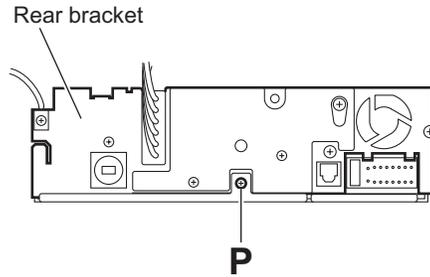

Fig.16
3.1.11 Removing the main board (See Figs.16 and 17)
- Remove the panel assembly, side heat sink, top chassis assembly, loading unit assembly and arm bracket assemblies (L)/(R).
- From the back side of the main body, remove the screw **P** attaching the rear bracket. (See Fig.16.)